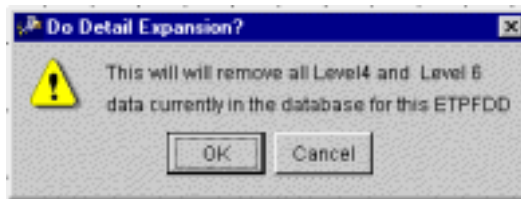

Figure 5.193 Do Detail Expansion? Window
- To remove the level 4 and level 6 information for the selected RLNs, click Apply to Marked RLNs. The Clean Level 4 and Level 6 window closes, and the Do Detail Expansion? window opens (Figure 5.193). Click OK to continue this operation. The level 4 and level 6 information for the selected RLNs is moved to level 3 for this ETPFDD, and the Do Detail Expansion? Window closes.